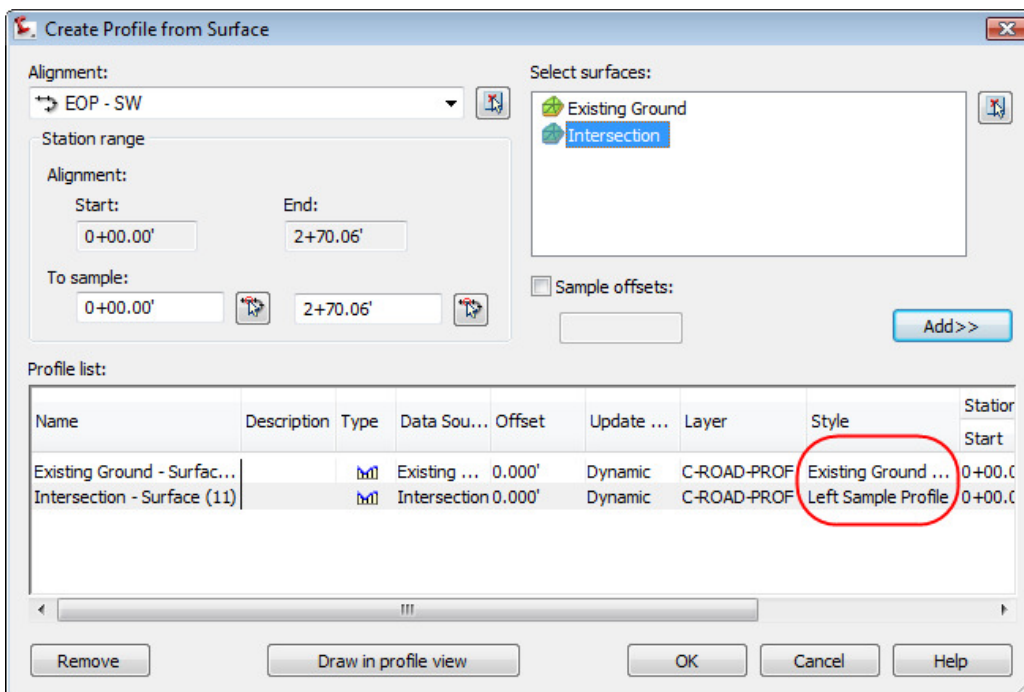

Figure 16
- b. Be sure to give the profiles different styles so you can differentiate them (see Figure 16).